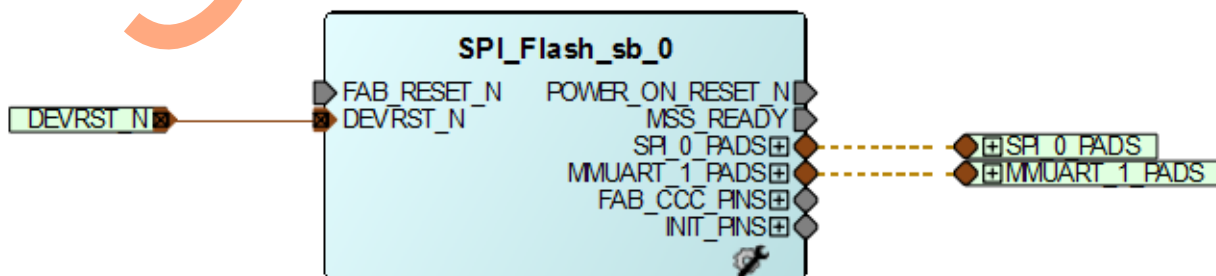

Figure 10 • SPI_Flash SmartDesign
20. Select **File > Save** to save **SPI_Flash**. Select the **SPI_Flash** tab on the Smart Design canvas, as shown in Figure 10.